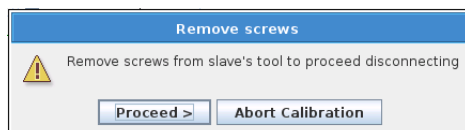

Figure 2.27: Remove screws
- (17) A pop-up appears as shown in Figure 2.27. Dismount the screws from the connector and press *Proceed*. If the *Auto step* box is checked, the robots will continue with correcting the robots' *home position*.